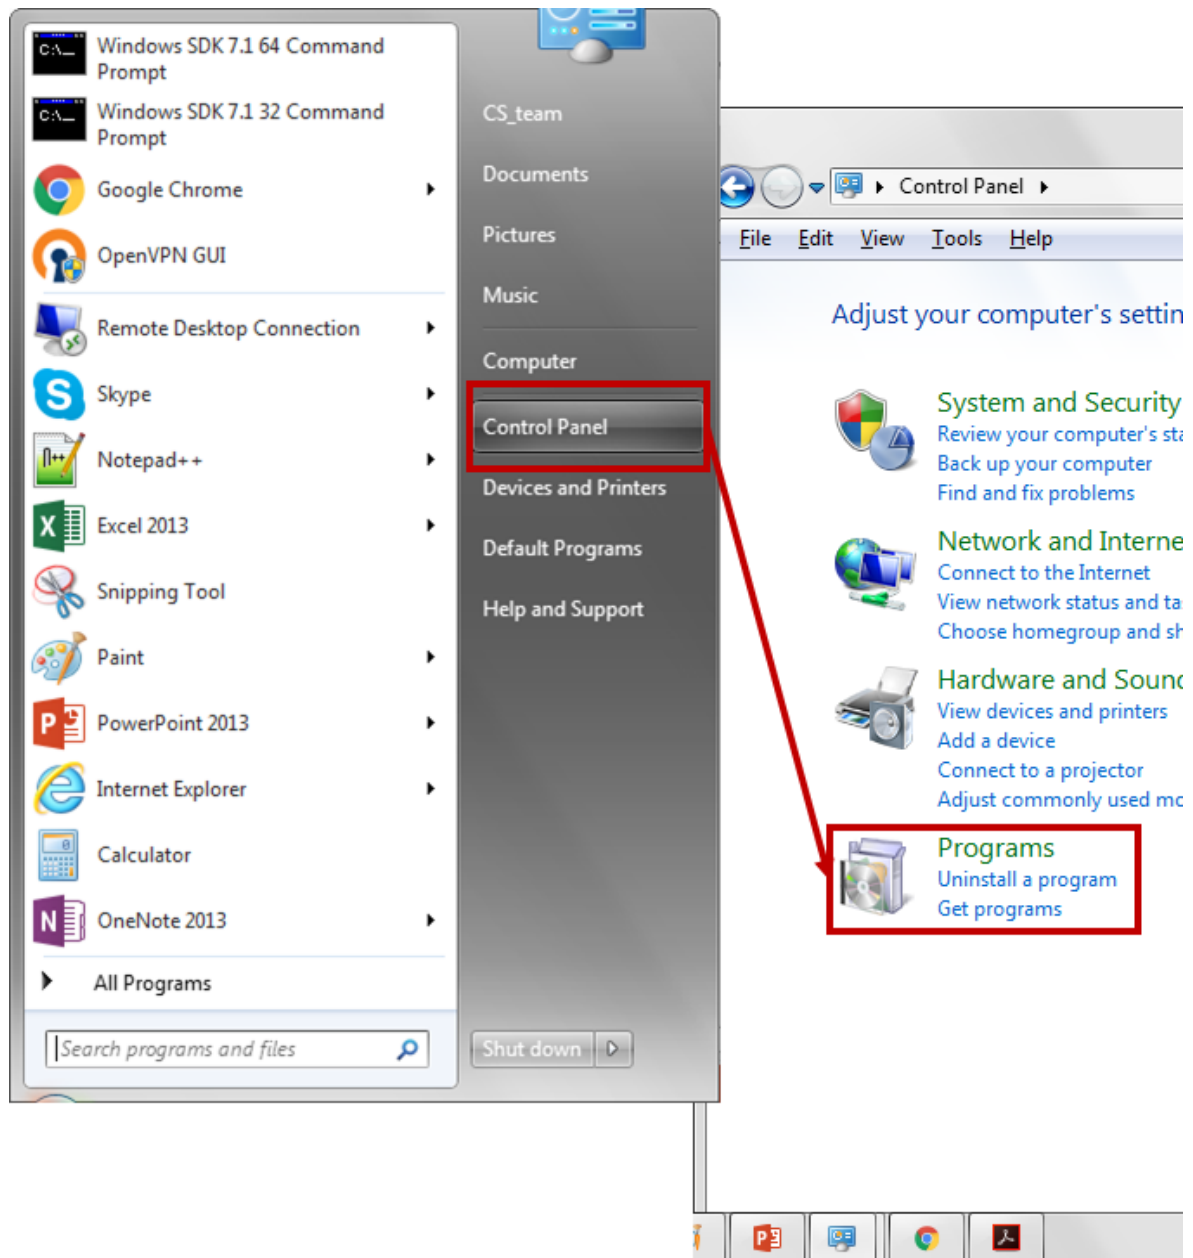
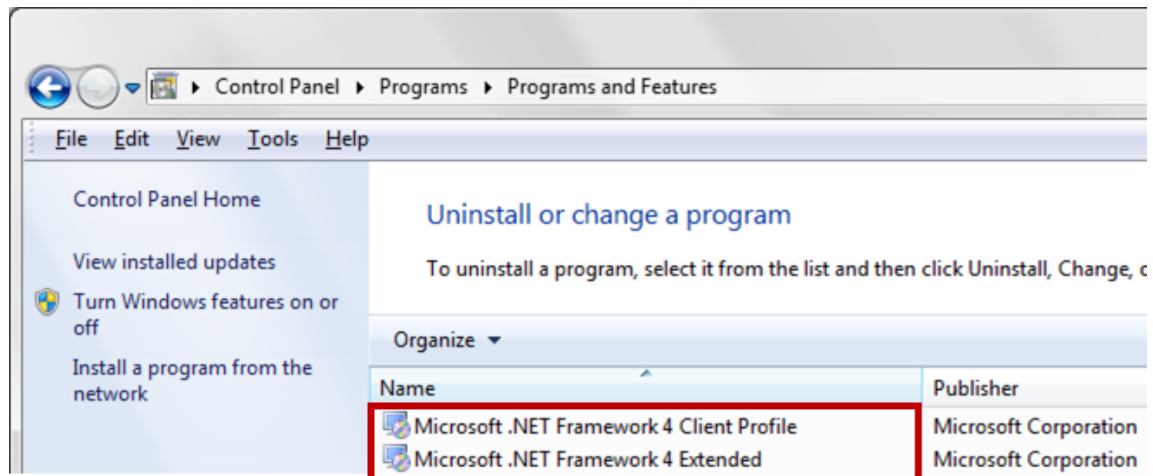

Figure III.1.1: Go in uninstallation programs procedure.
Figure III.1.8: Check that .NET 4.0 is installed.
- From Windows Start menu, open control panel and select Uninstall a program (see Figure III.1.1) and look for existing Microsoft Windows SDK v7.1 installation (see figure III.1.2).
- From Windows Start menu, open control panel and select Uninstall a program. See Figure III.1.1.
- Open the uninstallation program procedure (figure III.1.1) and look for existing Microsoft .NET 4.0 installation (see figure III.1.8).